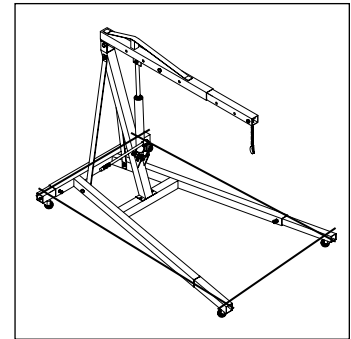

Figure 7
**ALWAYS** verify that the crane and the application are compatible. **NEVER** load the engine crane with an engine that extends beyond an imaginary line drawn connecting the centerlines of the front and rear wheel/ caster axles as shown in Figure 7.